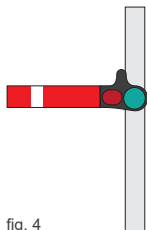
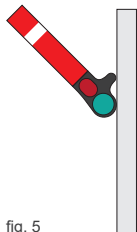

fig. 4
fig. 5
The examples above show the appropriate aspects for Upper-Quadrant signals (UQ), i.e. the signal arm raises into the upper quadrant of an arc in order to display its Clear aspect. Lower-Quadrant signals are those that drop downwards but the meaning between each type is identical. For a Clear aspect (fig. 5), you should regard any indication that is at a 45-degree position and, for a Stop aspect (fig. 4), those indications that are at a horizontal position. Note that these signals are essentially only capable of displaying two aspects and you should regard them as such when considering speed and braking effort.